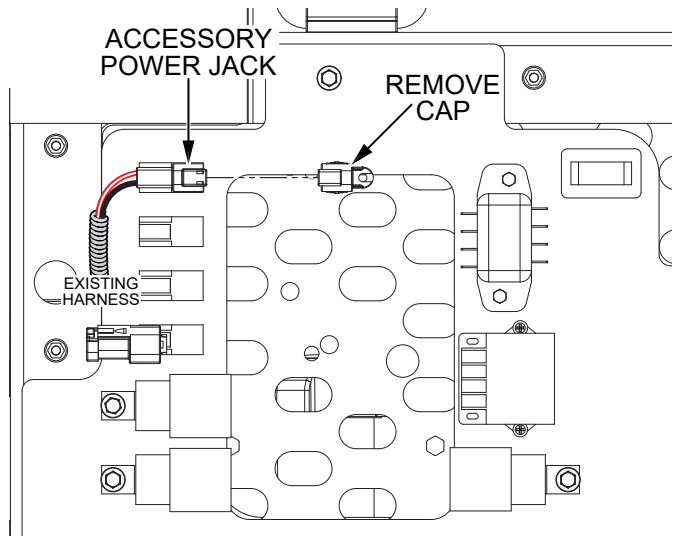

Figure 11. Remove Accessory Power Jack Cap
- Remove the cap from the accessory power jack on the electrical panel and set it aside (Figure 11).